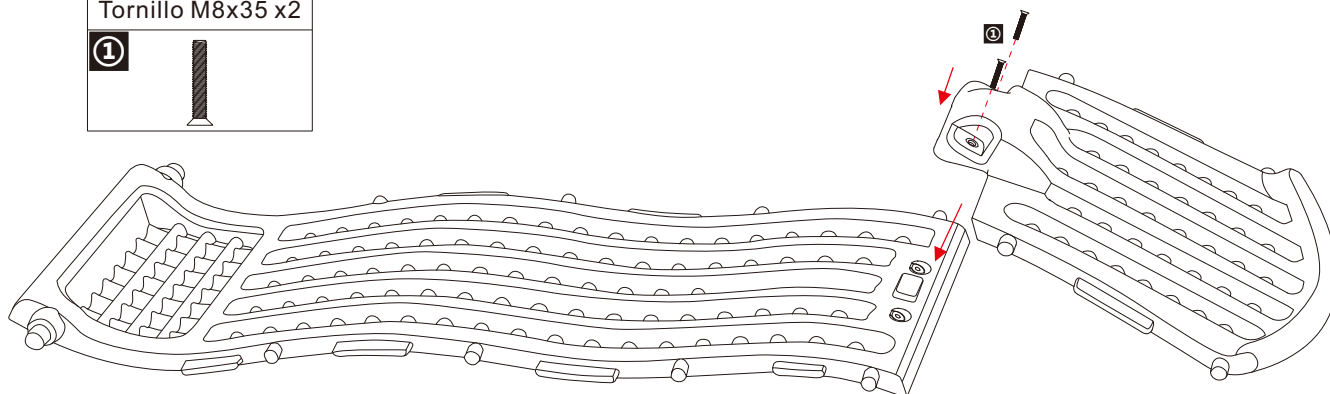

Figure 1 / Figura 1
1. Install the slow down board on the long guide rail as shown in the figure, and insert two M8 x 35 screws using a Phillips screwdriver (to be prepared by yourself) (see Figure 1).